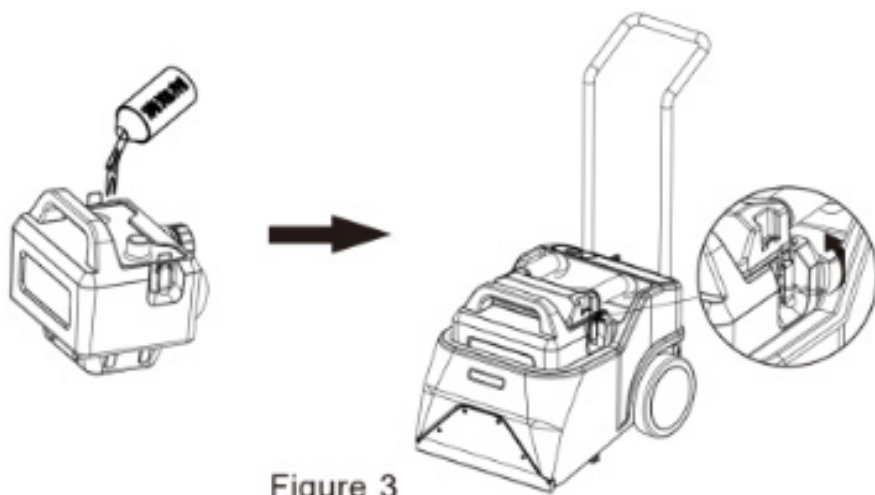

Figure 3
1. Once the equipment is confirmed to be in proper working condition, add a suitable amount of anti-foaming agent to the wastewater tank. Secure the lock catch, install the upper cover, and check for air leaks. The machine is now ready for use. (See Figure 3)